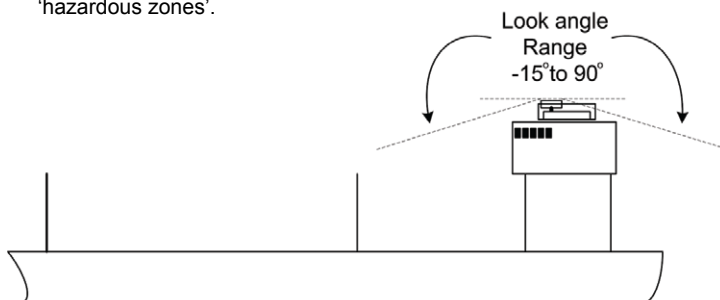

Figure 3 - DSAS Mk2 communicator mounting and look angles
- b. Obstructions within the look angle range (see Figure 3) are unavoidable in most marine installations, but the important thing is to minimise them. As a rule of thumb, it is useful to apply the rule: Safe distance = $29 \times$ diameter of obstruction. e.g. for a pole of 0.1 metres diameter, the safe distance is $29 \times 0.1 = 2.9$ metres. This rule ensures that the obstruction covers no greater than 2 degrees arc.